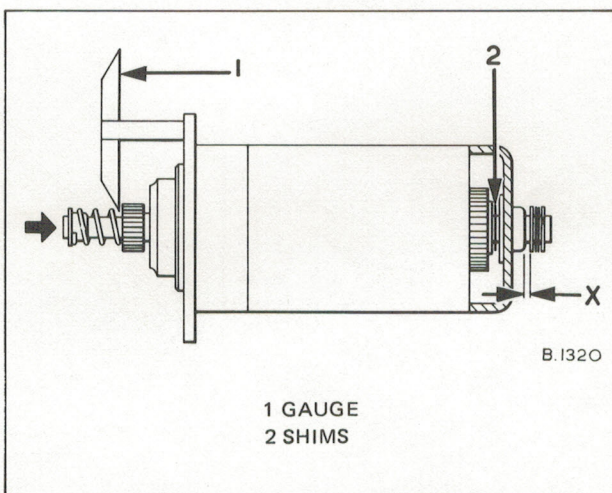

Fig. 10. End float adjustment
- (b) When this has been done, push the armature towards the commutator end of the machine as shown in Fig. 10 and again measure gap 'X' which should now be within the limits $2,03 + 0,50 - 0,0$ mm ($0,079 + 0,020 - 0,0$ in). A GO NO-GO gauge is available, Tool No. 6244-4.